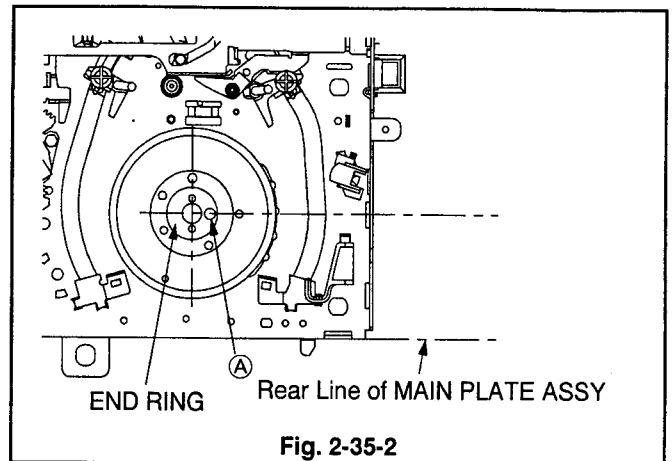

Fig. 2-35-2
3. Install the END RING so that the reference hole (A) of the END RING shown in the Fig. 2-35-2 will be placed in parallel with the Rear Line of the MAIN PLATE ASSY. (The reference hole (A) should be on the right when viewed from the bottom.)